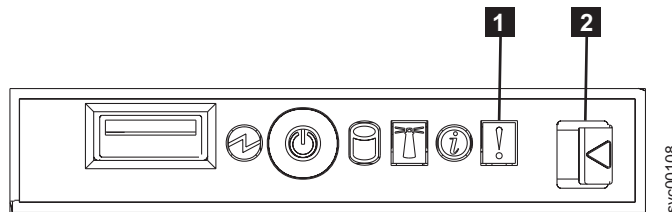

Figure 100. SAN Volume Controller 2145-8F4 operator-information panel
- Is the Error LED, shown in Figure 100, on the SAN Volume Controller 2145-8F2 or the SAN Volume Controller 2145-8F4 operator-information panel illuminated or flashing?